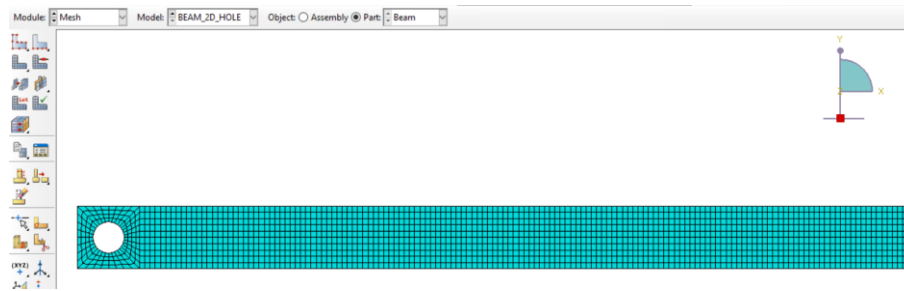

Figure 3-14 – Mesh of the new part.
13. Assign mesh controls and mesh the part by following the same procedure as in Section 2.6. Use an approximate global seed size of **12.5 mm**. The final mesh is shown in Figure 3-14.